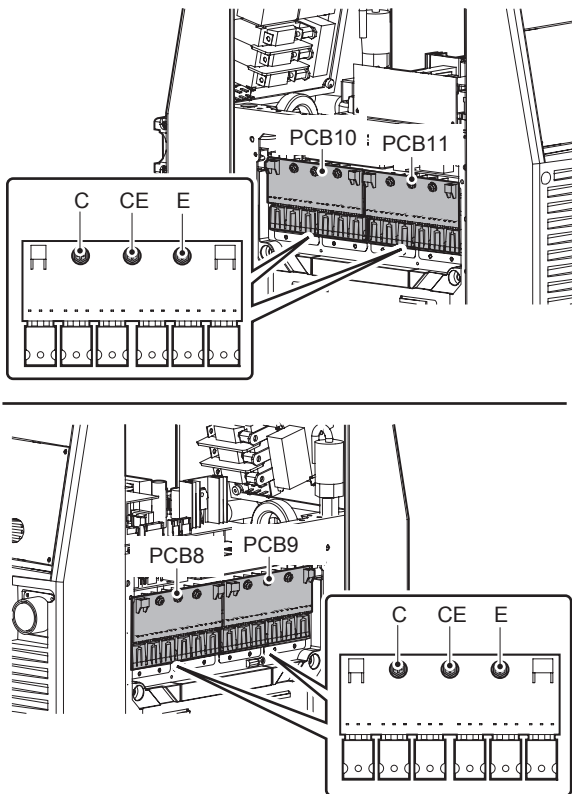

Figure 9-10: Tester checkpoints in the primary IGBT (Q1-24)
3. Refer to Table 9-3 and Figure 9-10 for the checkpoints on PCB8 and PCB9.